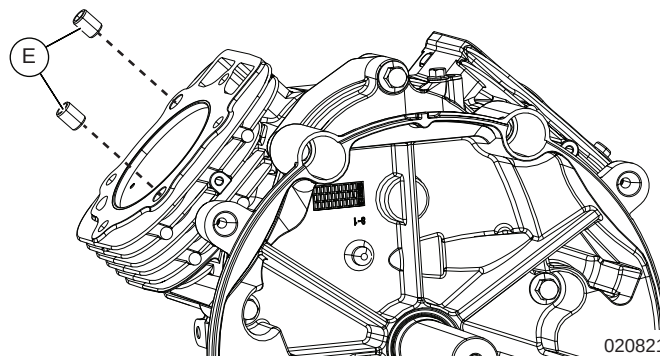

Figure 12-3. Install Cylinder Head Dowels into Crankcase
1. See Figure 12-3. Install cylinder head bolt dowels (E) into cylinder head assembly.